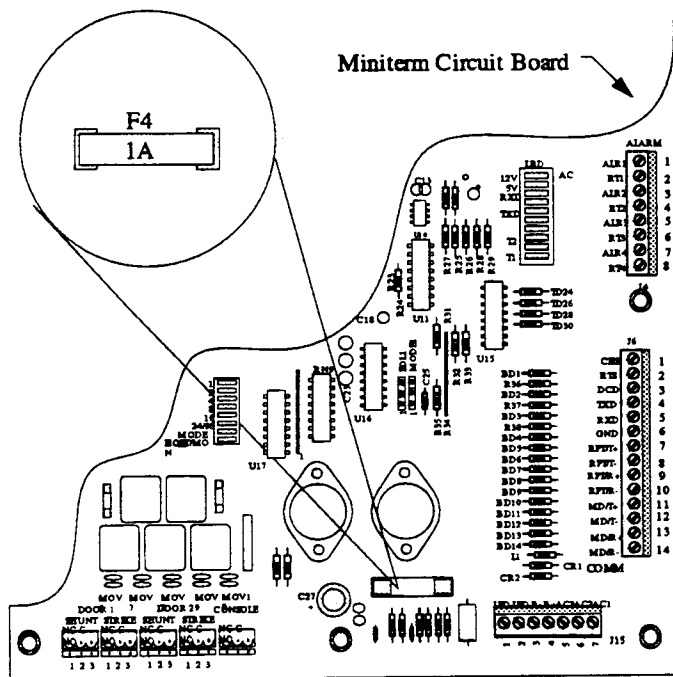

Figure 28 - Miniterm Main Fuse Location
A 1-ampere (1A) slow-blow fuse protects the external 12V wiring from excess currents and the Miniterm from an improperly installed backup battery. The fuse is located on the lower right-hand edge of the circuit board above the POWER connector (see Figure 28).
- 2) Using a non-conducting fuse puller, remove the old fuse (see Figure 28).